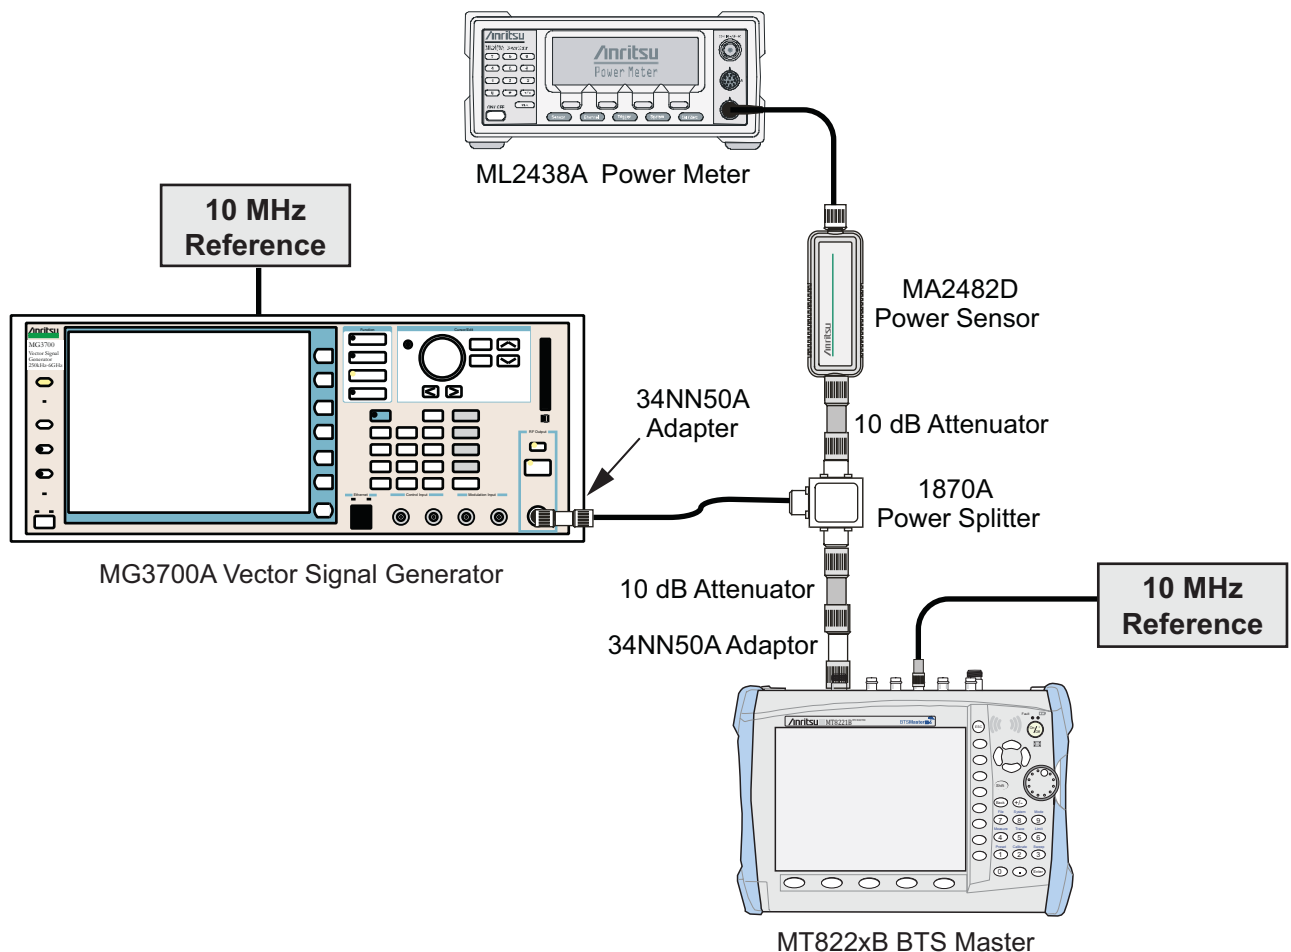

Figure 5-11. LTE Signal Analyzer Option Verification
4. Connect the Power Sensor, 1870A splitter, 10 dB attenuators (quantity 2), as shown in Figure 5-11, “LTE Signal Analyzer Option Verification”.
4. Connect the Power Sensor, 1870A splitter, 10 dB attenuators (quantity 2), as shown in Figure 5-11.